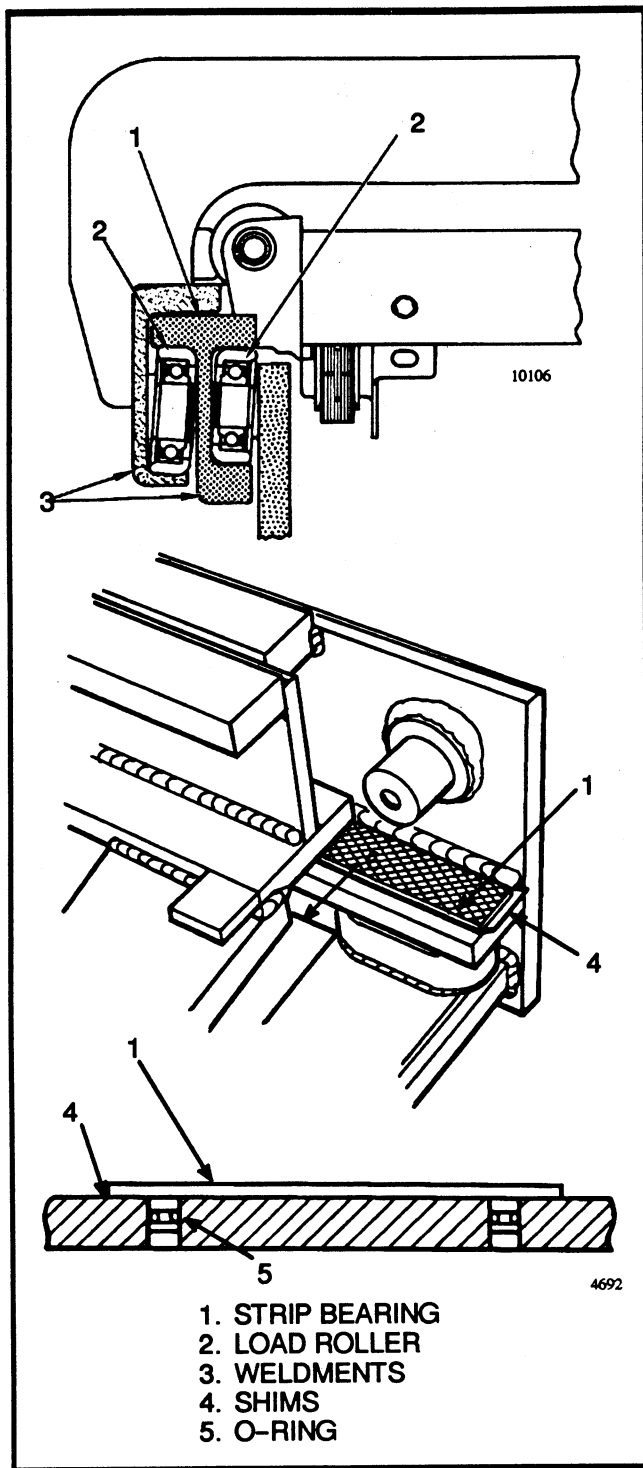

FIGURE 11. ADJUSTMENT OF THE STRIP BEARING
3. Adjust the strip bearings. Insert shims between the strip bearing and the spacer bar. Adjust the clearance until there is less than 0.8 mm (0.030 in) at the tightest fit. See FIGURE 11.